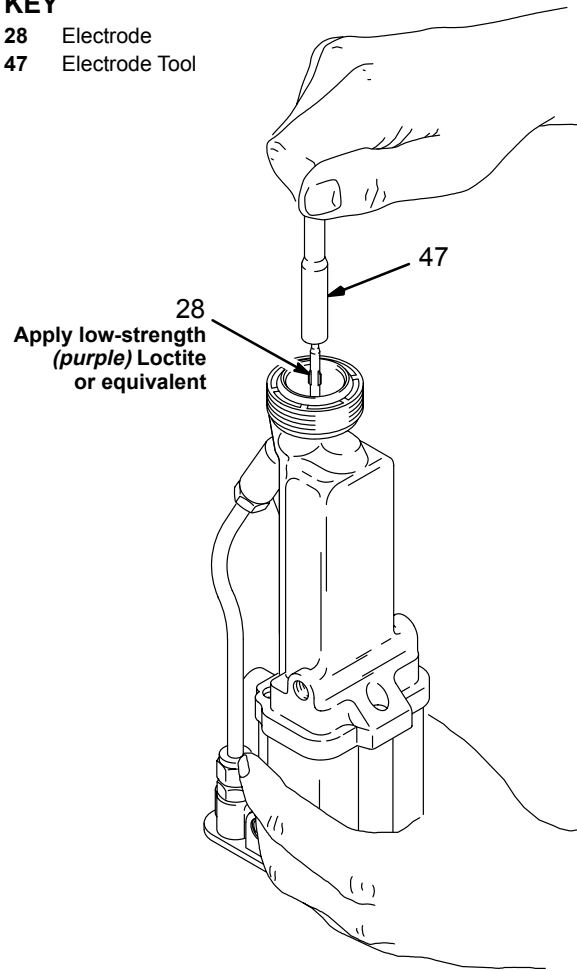

Fig 17
3. Lightly lubricate the o-ring (31) with petroleum jelly and install it on the resistor stud (2).
4. Using an 8 mm hex key (A), install the resistor stud (2) in the fluid nozzle (14). Tighten to 10 in-lb (1.12 N•m).
Make sure the electrode (28) is tightened properly , as shown in Fig 17 , page 20.
5. Install the fluid nozzle (14) and resistor stud (2) assembly with the nozzle wrench (48). Tighten until the fluid nozzle seats in the gun barrel (1/8 to 1/4 turn past hand-tight).
6. Install the air cap assembly (6, 16, 43), o-ring (12), and retaining ring (9). Test gun resistance as instructed on page 16.
2. Unscrew and remove the fluid needle/electrode (28) with the electrode tool (47) provided. Be careful not to damage the contact wire. See Fig 17 .